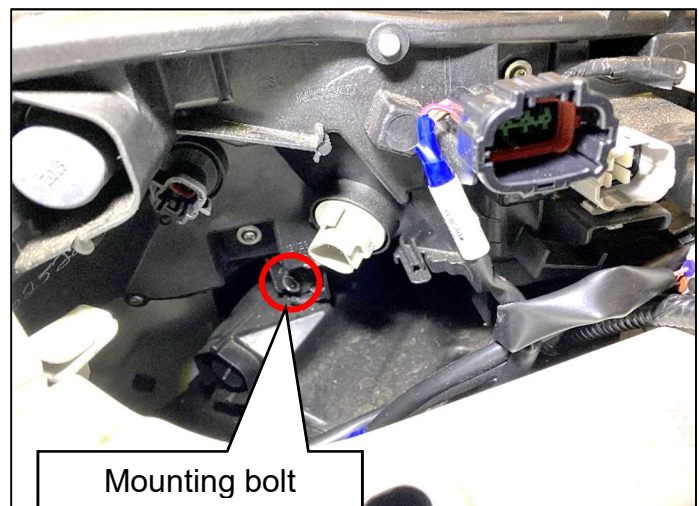

Figure 14
14. Remove one (1) mounting bolt on the back of the combination lamp assembly. (Figure 14)